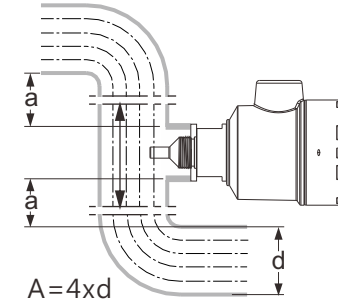

Fig. 4
- (1). Please assure the minimum distance to the tube bends and intersections greater than four times of pipe diameter. (See Fig. 4)